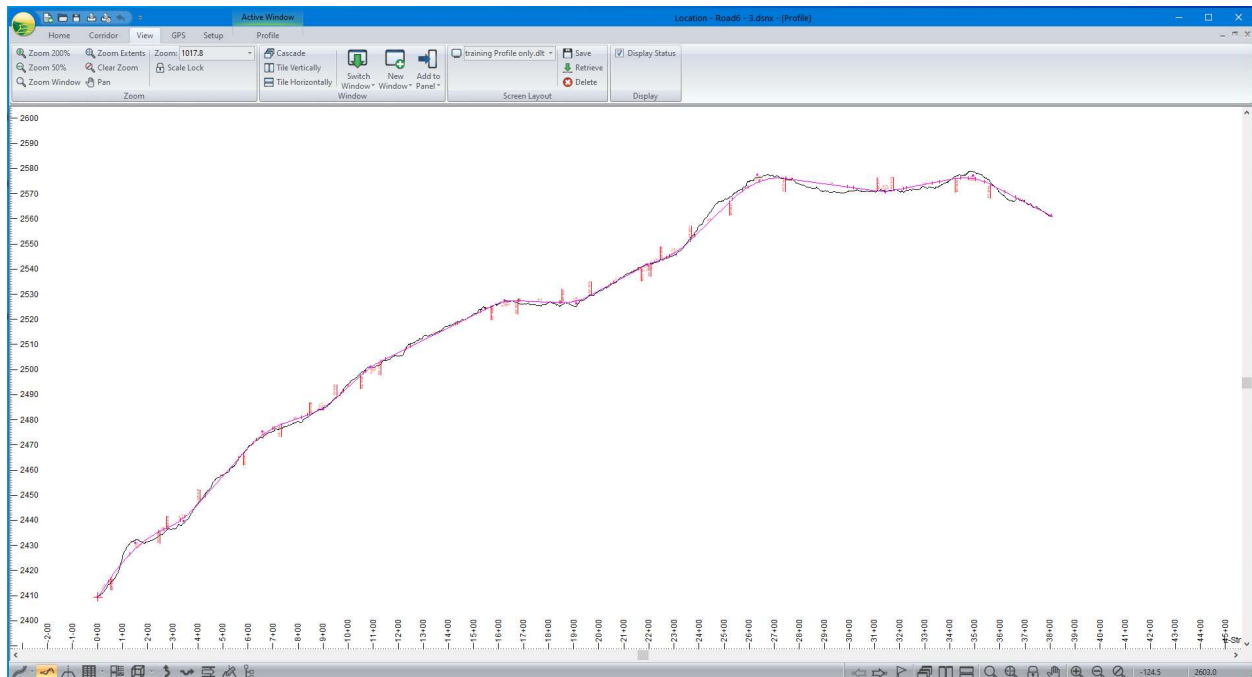

Figure 8-1: Location Design After Opening *Training Profile Only.dlt* Screen Layout
2. Using the *Screen Layout* drop-down menu open **Training** folder, select **training Profile only.dlt**. This will set up your screen to look like Figure 8-1 below.